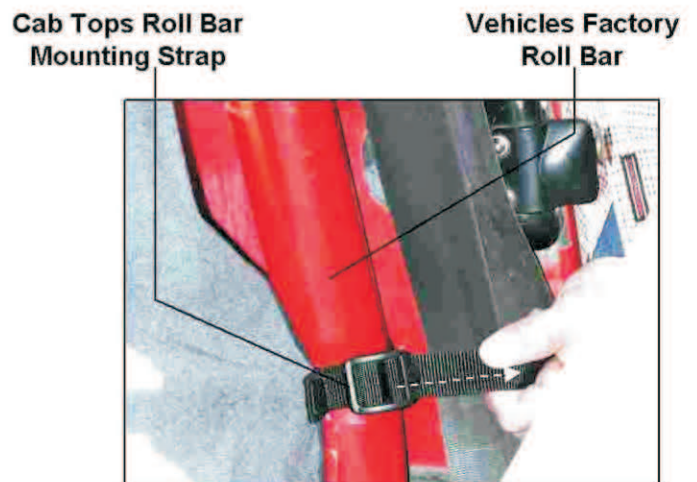

Figure 15
2. Secure each strap around the roll bar and tighten by pulling on the strap ends (Figure 15).